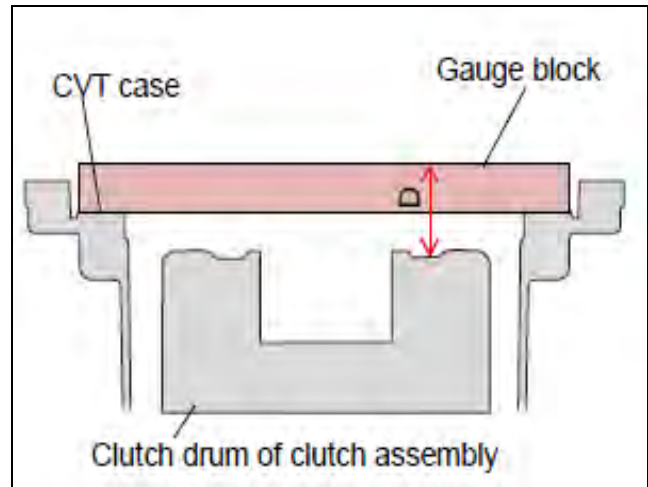

Figure 2GG
4. Calculate the “average clutch assembly bore depth” (**D**) shown in Figure 2G as follows: